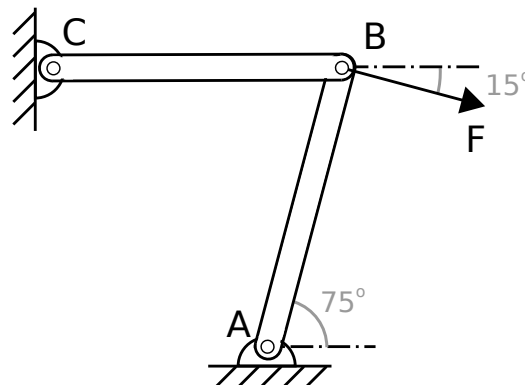

Figure Q25
25. The pin-jointed framework ABC is subjected to an external load, $F = 20kN$, as shown in Figure Q25. If each member has a length of 600 mm, a cross-section of $20 \times 30 \text{ mm}^2$ and is made of aluminium with a value of Young's modulus of 70 GPa: